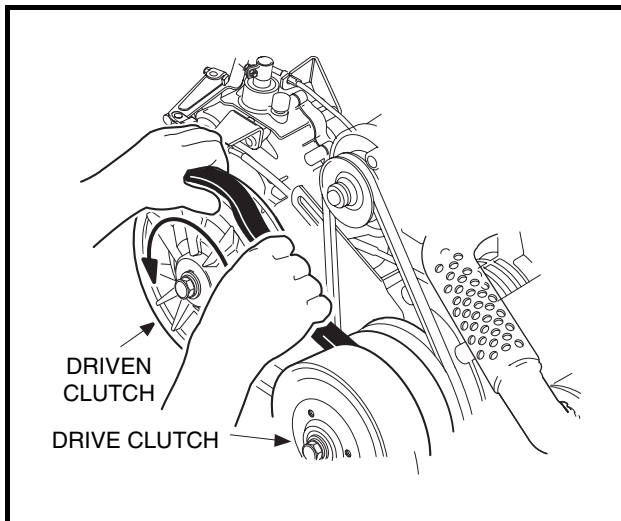

Figure 20-2 Drive Belt Removal
3. Grasp the belt midway between the drive and driven clutches. Lift upward on the belt to force the sheaves of the DRIVEN clutch apart, then roll the belt off the DRIVEN clutch by rotating the clutch counterclockwise (**Figure 20-2, Page 20-3**). See following **CAUTION**.